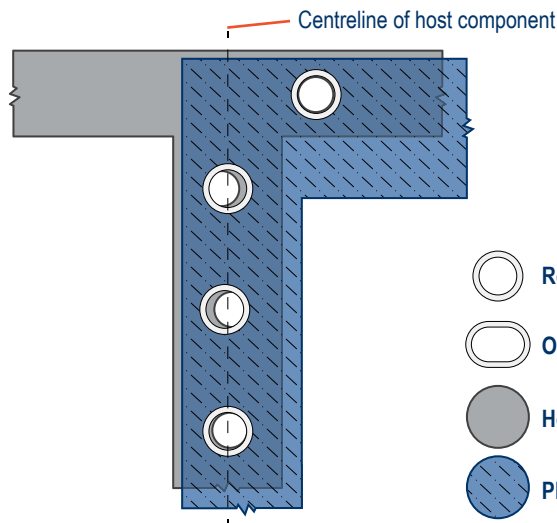
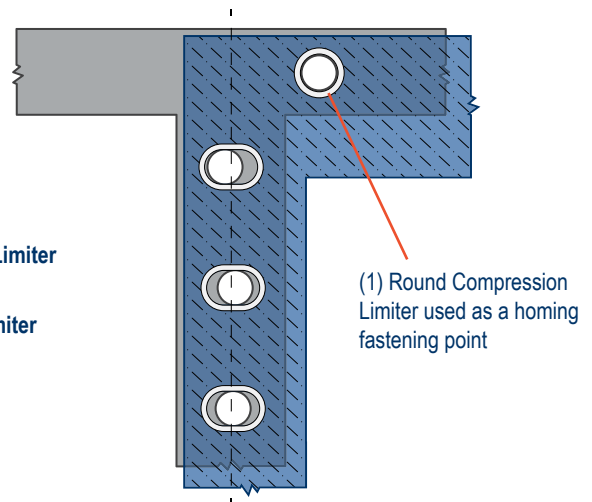

Figure 1
Figure 2
The Design Engineer of an assembly needed to account for the stack-up centreline tolerances of several fastening points. The requirement of the assembly in *Figure 1* was such that there could be no movement up and down along the y-axis. Therefore, the product designer decided to use (1) Round Compression Limiter as a datum point, which would be installed first to ensure correct overall positioning. Next, they redesigned the assembly to replace the (3) Round Compression Limiters with Oval Compression Limiters to account for any deviations from centreline along the remaining (3) fastening points (*Figure 2*).
If the mating component has known tolerance deviations along a certain axis, causing potential misalignment at specific fastening points, Oval Compression Limiters can be used strategically in combination with Round Compression Limiters (*Figures 2 & 4*). This flexibility gives the product designer of the plastic component the ability to provide solutions when alignment challenges present themselves – especially if they do not also have design control of the mating component. Round Compression Limiters serve a valuable purpose in the combination as well. In assemblies with multiple fastening points, designers do not necessarily want too much flexibility along one axis. That could lead to, for example, the entire plastic component sitting too far to one side of the mating component. Therefore, there is value in the clearance limitations of Round Compression Limiters – they keep the overall alignment of the assembly centred while the Oval Compression Limiters alleviate the issue of potential misalignment on specific, targeted, fastening points.